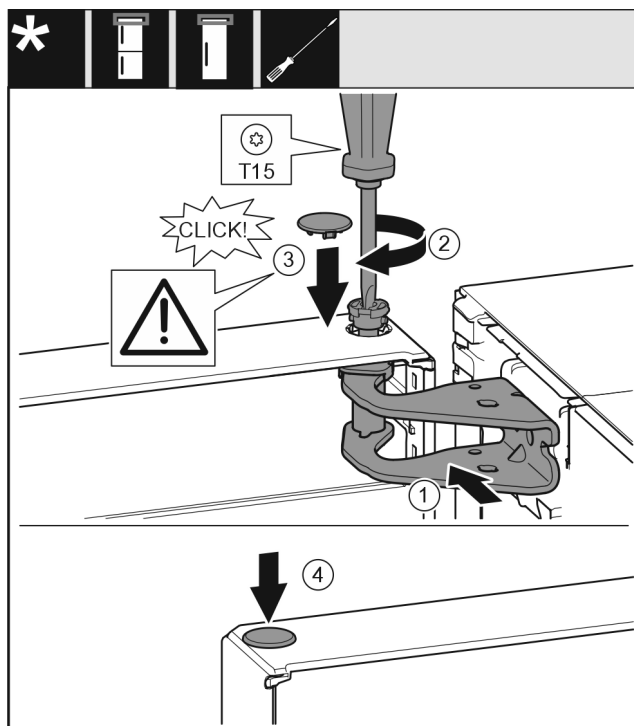

Fig. 22
- Align the top door with the opening in the swap bearing block *Fig. 22 (1)*.
- Insert the bolt *Fig. 22 (2)* and use screwdriver to tighten it.
- Insert the cover *Fig. 22 (3)*.
- Check that the cover *Fig. 22 (3)* is resting on the door.
- Insert the cover *Fig. 22 (4)*.